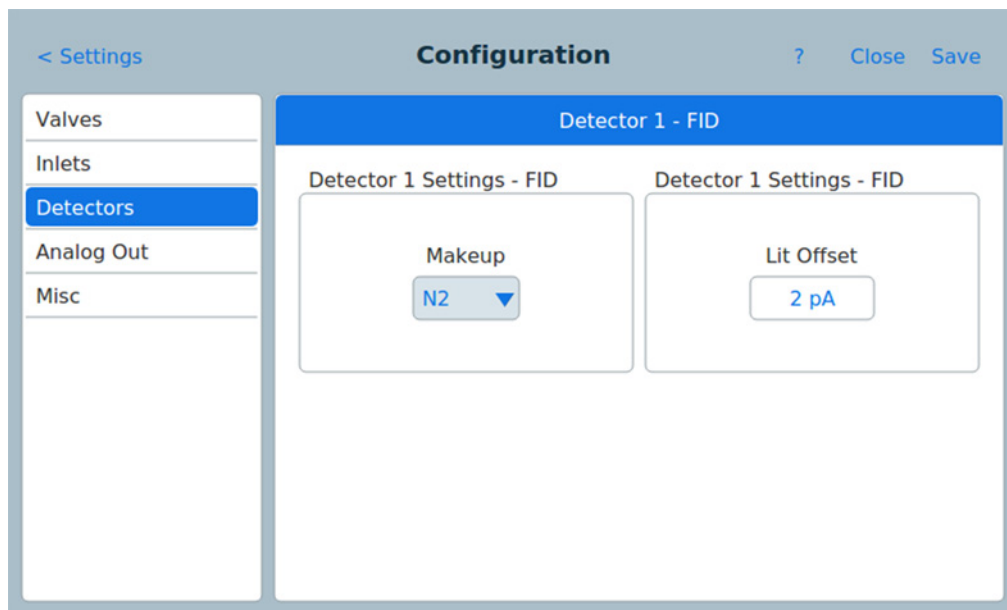

Figure 58 Detectors page
- 3 Press the **Detectors** device type from the list on the left side of the screen. The properties for the selected device type appear on the right side of the screen. See Figure 58.